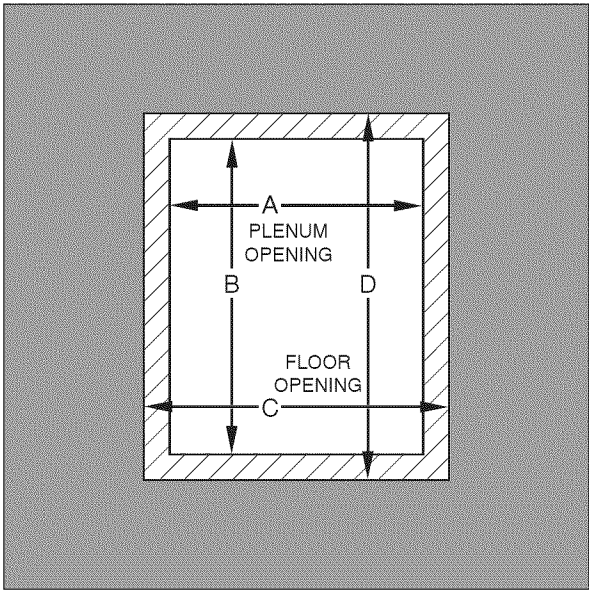

Fig. 22 - Floor and Plenum Opening Dimensions A96283
2. Construct hole in floor per dimensions specified in Table 3 and Fig. 22.
3. Construct plenum to dimensions specified in Table 3 and Fig. 22.